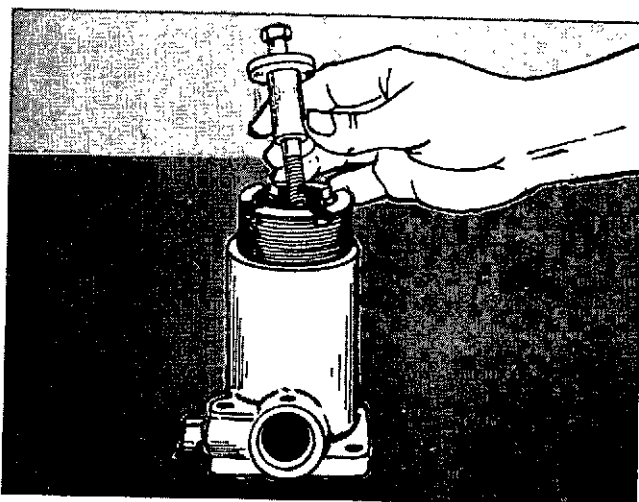

Fig. 4-35. Install The Spacer And Retainer Capscrew.
19. Install the spacer and retaining capscrew through the spring retainer, Fig. 4-35. Install the capscrew into the actuator shaft, but do not tighten to the torque value.